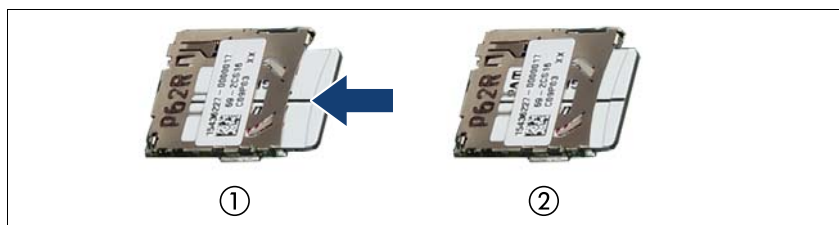

Figure 296: Installing the microSD card
- ▶ With the label facing up, insert the microSD card into the microSD slot on the controller until it locks in place (see figure 296).